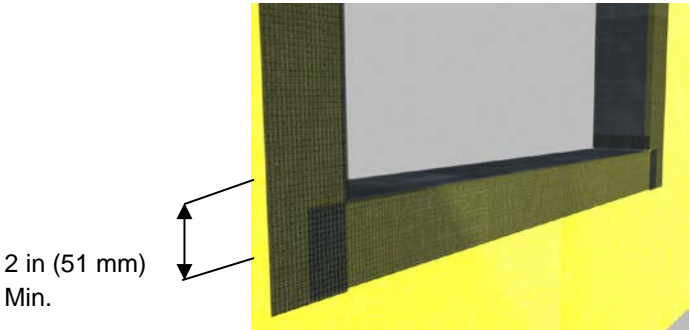

Figure 3
- 4) Install the AquaFlash System at the jambs in the same manner extending 2 in (51 mm) above the head and overlapping onto the sill material a minimum of 2 in (51 mm) – Figure 3.